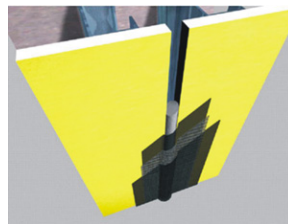

Figure 15
- c. Using a brush or 3/4 in (19 mm) nap roller, apply a liberal coat of AquaFlash Liquid material to the backer rod and adjacent substrate surface to the width of the AquaFlash Mesh - Figure 15.